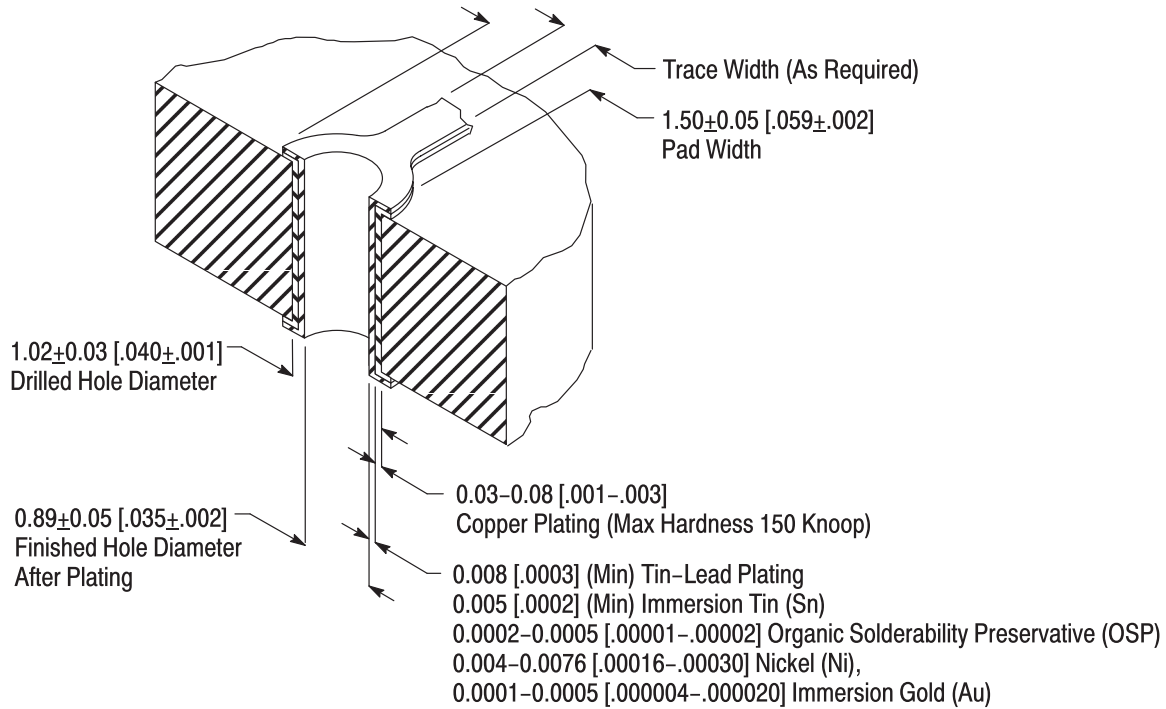

Figure 2
- Added RoHS information to Figure 2
The pc board holes for the contacts must be drilled and plated through. The plating type and thickness and finished hole size must be as stated to provide unrestricted insertion. See Figure 2.